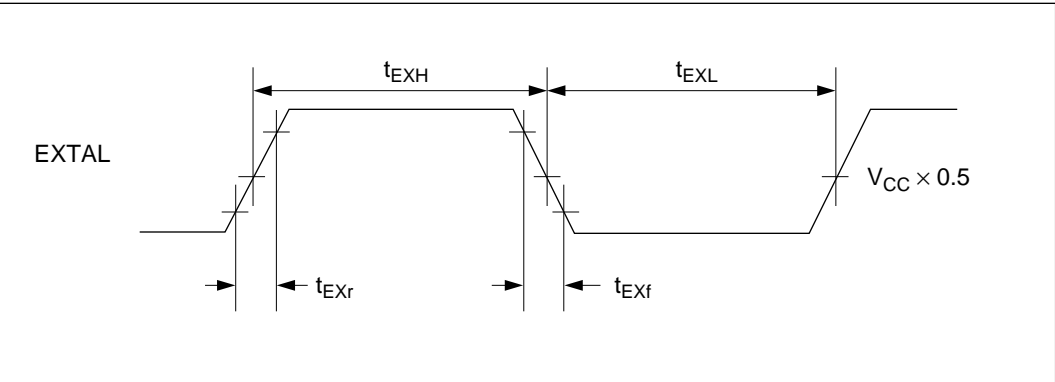

Figure 8-6 External Clock Input Timing
(2) **External Clock:** The external clock frequency should be equal to the system clock frequency (ø). Table 8-3 and figure 8-6 indicate the clock timing.